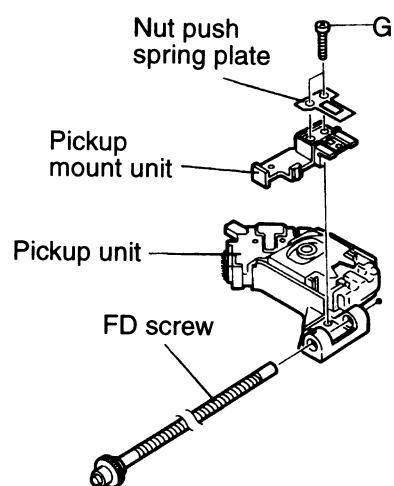

Fig. 21
8. By removing the two screw G retaining the pickup unit, dismount the nut push spring plate and pickup mount nut (See Fig. 21).
9. Remove the FD screw from the pickup unit (See Fig. 21).